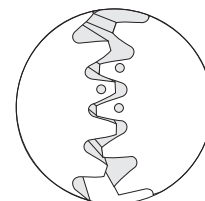

Figure 11
9. Then pull the gears **42** off the shafts **29**, **30** with an extraction tool. Do not forget to note which gear came from which shaft using the centre punch marks and which gear teeth were opposite one another during the dismantling operation (see figure 11).
1. Position the timing gears **42** on shafts **29** and **30**. Check that each gear is fitted on to the correct shaft. Check that the correct teeth are meshed (see figure 11).